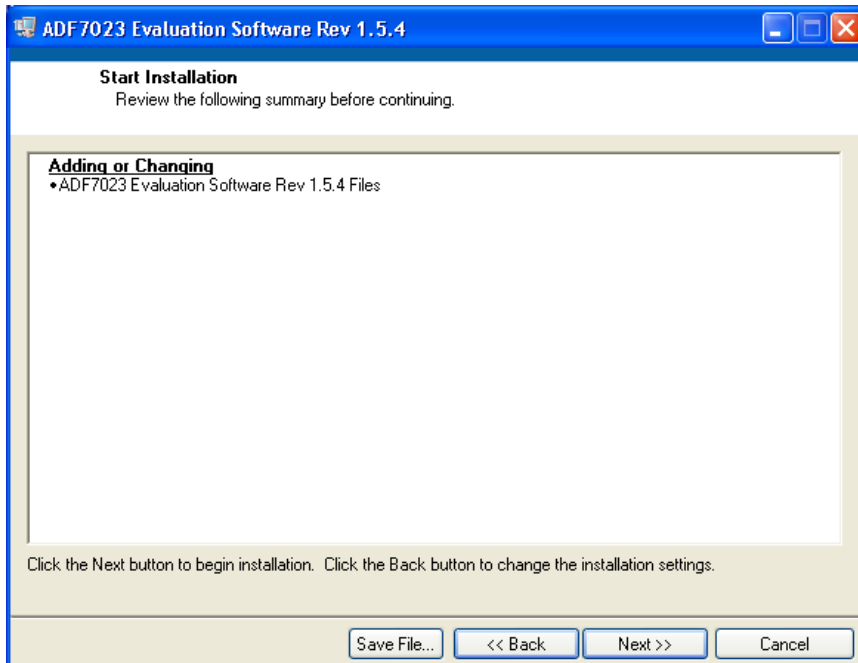

Figure 6
7. Click **"Next"** (Figure 6):